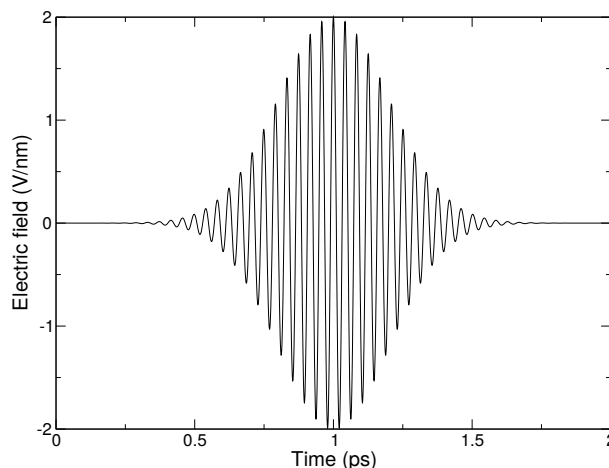

Fig. 5.47: A simulated laser pulse in GROMACS.
This simulated laser-pulse was applied to simulations of melting ice 146 (page 518). A pulsed electric field may look like Fig. 5.47. In the supporting information of that paper the impact of an applied electric field on a system under periodic boundary conditions is analyzed. It is described that the effective electric field under PBC is larger than the applied field, by a factor depending on the size of the box and the dielectric properties of molecules in the box. For a system with static dielectric properties this factor can be corrected for. But for a system where the dielectric varies over time, for example a membrane protein with a pore that opens and closes during the simulation, this way of applying an electric field is not useful. In such cases one can use the computational electrophysiology protocol described in the next section (sec. *Computational Electrophysiology* (page 462)).
yields an pulsed-oscillating electric field with  $E_0 = 2$  V/nm,  $\omega = 150/\text{ps}$  and  $t_0 = 5$  ps and  $\sigma = 1$  ps. Read more in ref. 146 (page 518). Note that the input file format is changed from the undocumented older version. A figure like Fig. 5.47 may be produced by passing the `-field` option to `gmx mdrun` (page 112).